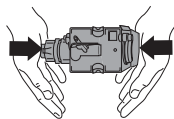

Figure 28
- If it is difficult to insert the brewing system, squeeze it into size by vigorously pressing from above and below at the same time (Figure 28).